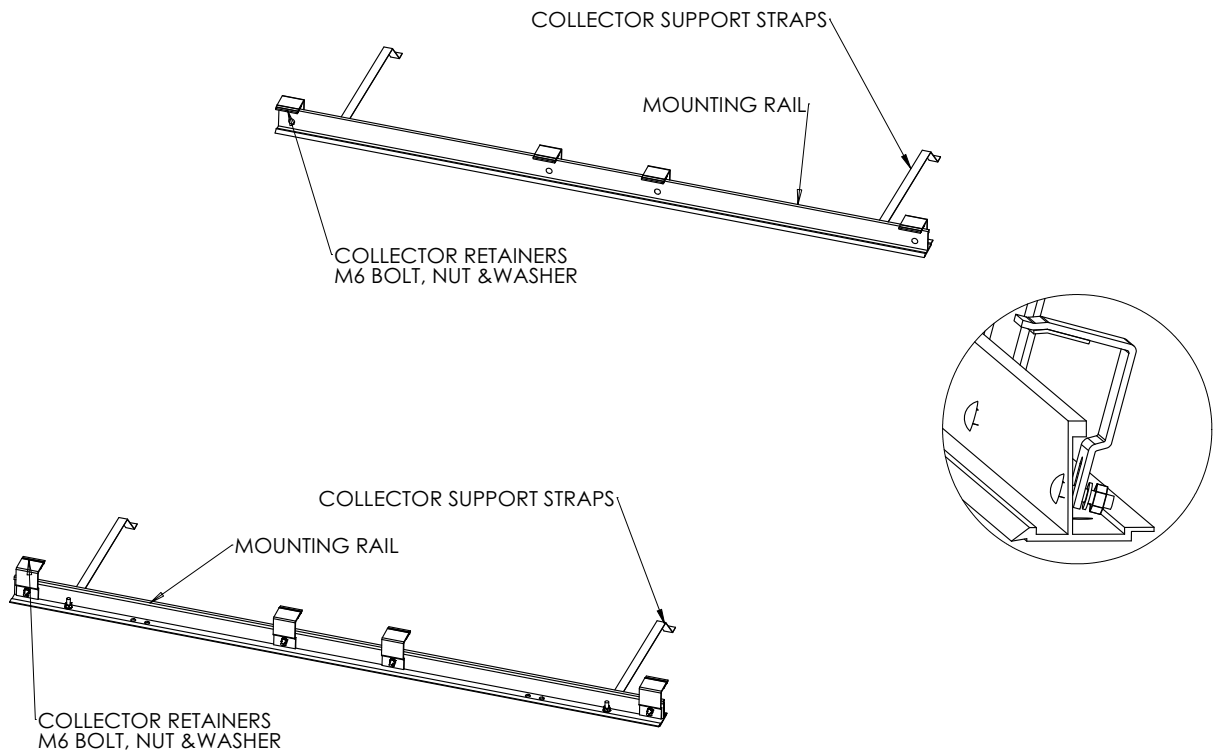

Figure 18 - Collector Mounting Components
- Assemble the collector rail components as shown in **Figure 18** below.